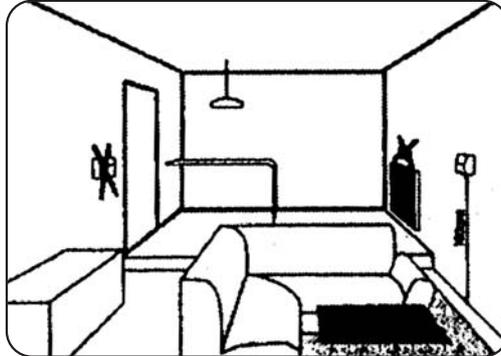

FIG. 1
1. Look for a location that has a constant temperature in the house and is not near the door entry or air conditioning outlet (see example on figure 1). Avoid sunny locations if possible.